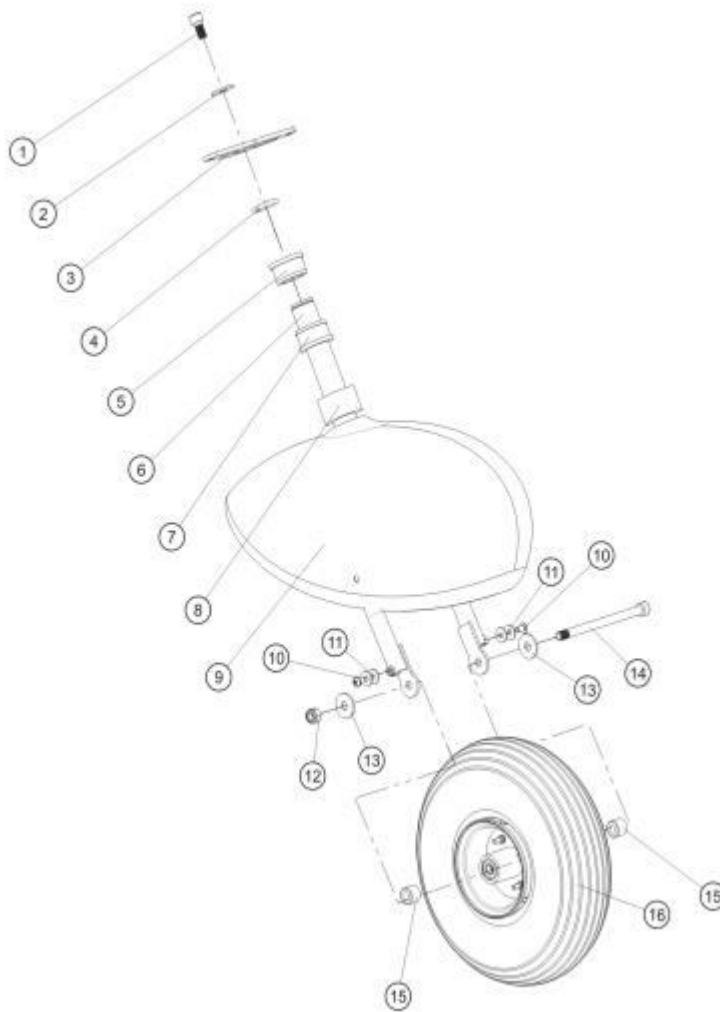

Fig. 1 - Nose gear assembly
- 1 Unscrew and remove nut (Fig.1, 12) and washer (Fig.1, 13). Discard nut.
- 2 Pull out and remove bolt (Fig.1, 14) with washer (Fig.1, 13) and remove wheel. Maintain spacers (Fig.1, 15)!
- 3 Install wheel with spacers (Fig.1, 15) in place, bolt (Fig.1, 14) with washers (Fig.1, 13) in reverse order.
- 4 Install new self-locking nut (Fig.1, 12) and torque-tighten with 35 Nm.